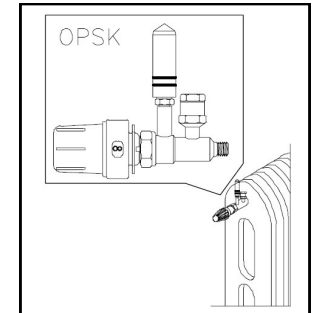

Fig. 9 One-Pipe Steam Valve Model OPSK.
ONE-PIPE STEAM SYSTEMS (Fig. 9)
2. Install as shown in Fig. 9. Note: Steam air vent must be mounted in upright position. Vacuum breaker required.